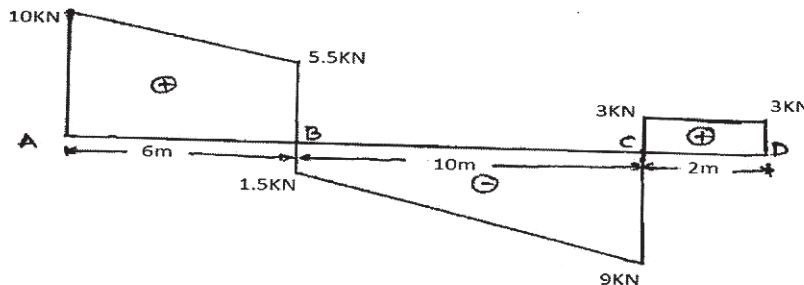

Fig. 3
- (b) Fig 3 shows SFD. Draw loading diagram and BMD. Also find point of contraflexure if any. [6]